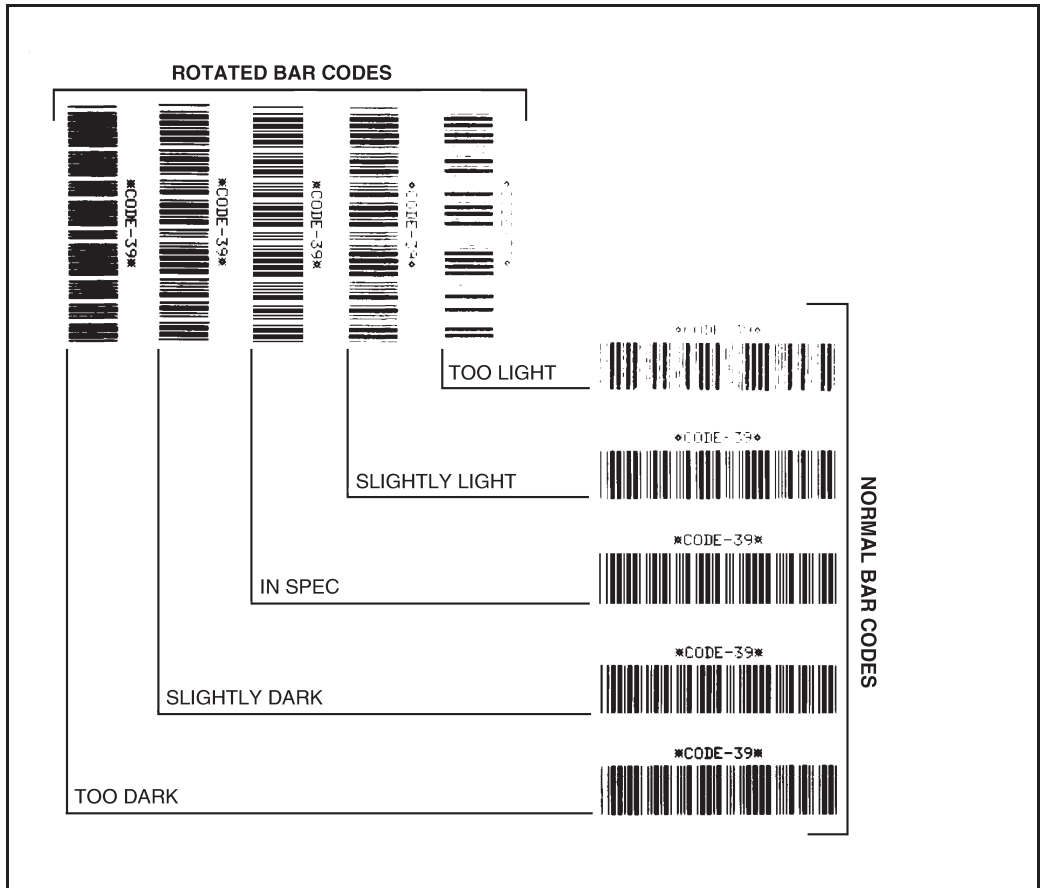

Figure 29. Bar Code Examples
4. Compare the test label printed to the bar codes in Figure 29. If the test label appears too dark or too light, increase or decrease the darkness setting accordingly.